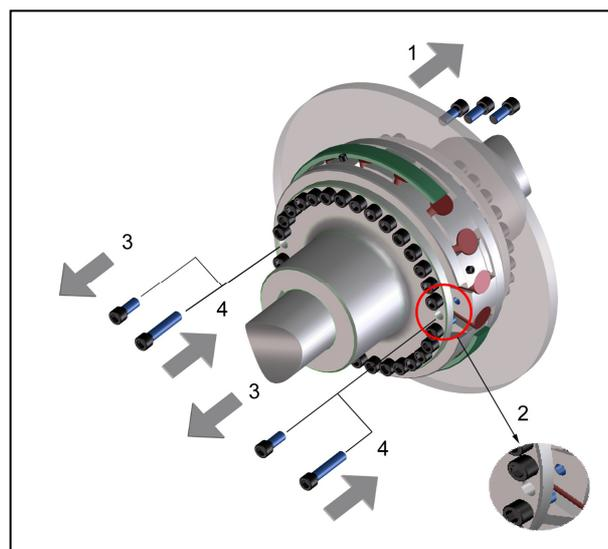

Fig. 10
- Remove all the cheese head screws from the brake disk side (Fig 10, Pos. 1). This separates the claw ring from the flange hub.
- Remove the cheese head screws from the other coupling half which are located opposite the front side threads in the claws of the loosened ring (Fig 10, Pos. 2 and 3).
- Use longer clamp screws (Fig. 10, Pos. 4) to axially remove the loosened claw ring from its centering seat. Make sure there is a gap between the claw ring and the flange hub or brake disk so that these parts are no longer in contact.